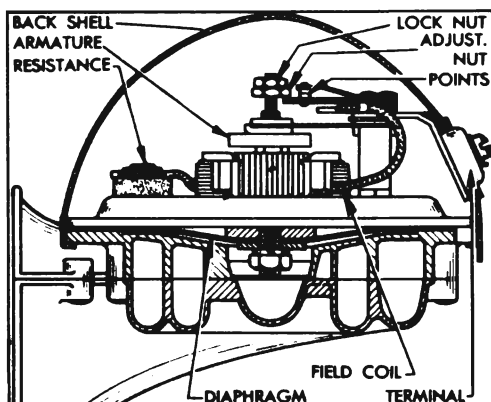

Figure 10-66—Horn Contact Point Adjustment
4. Adjust to specified current draw, if necessary, by loosening lock nut and turning contact point adjusting nut clockwise to decrease or counterclockwise to increase current draw. See figure 10-66. This adjustment is very sensitive, and adjusting nut should not be moved more